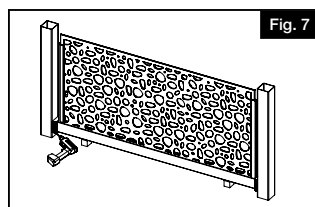

Fig. 7
- Ensure bracket is centered to post. Then, using $\frac{1}{8}$ " drill bit, pre-drill first bottom bracket screw hole through bracket hole and post (use the four outside corner holes) (Fig. 7).